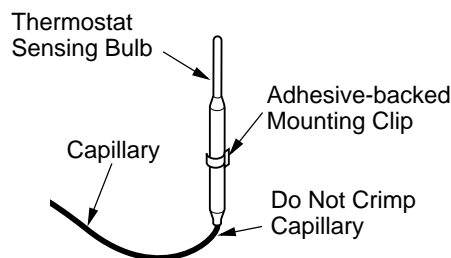

Figure 49 - Positioning the Thermostat Sensing Bulb in the Vertical Position with the Capillary at the Bottom
4. The mounting clip must be a minimum of 3" from bottom of fireplace to prevent crimping of capillary. Once you have decided on a location, clean the area thoroughly. Remove the paper backing from the adhesive on back of mounting clip. Press the clip into the new location so that the thermostat sensing bulb will be positioned vertically with the capillary at the bottom (see Figure 49). Slide the thermostat sensing bulb into the clip.